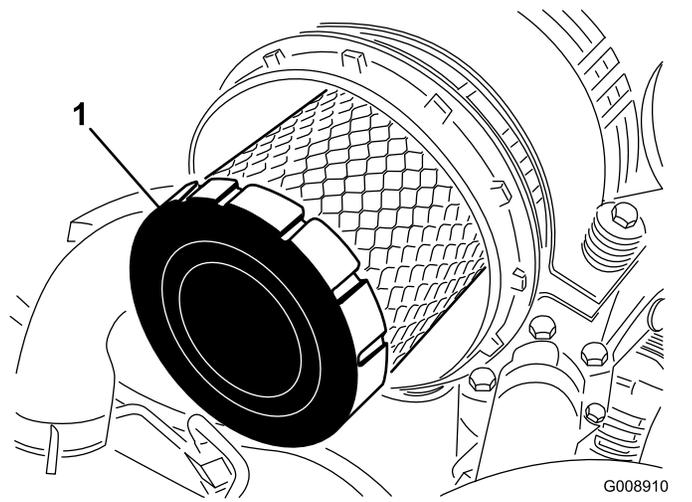

Figure 97
4. Remove the primary filter (Figure 97).